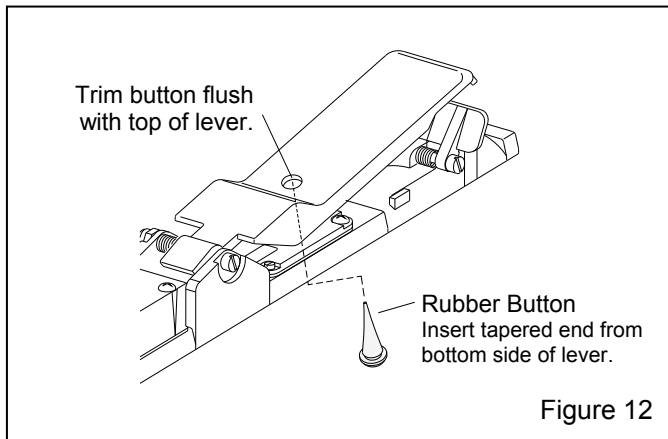

Figure 12
**4.6.1 Rubber button replacement – Figure 12**